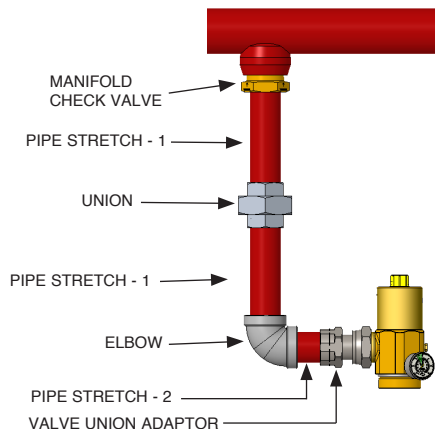

FIGURE 6-6
- See Figures 6-6 and 6-7 for 1 in. and 2 in. manifold check valve installations, hard pipe options with or without the AHA.